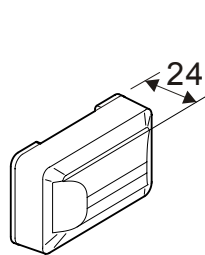

Fig. 1
- FDAI91 (Fig. 1) for frame mounting